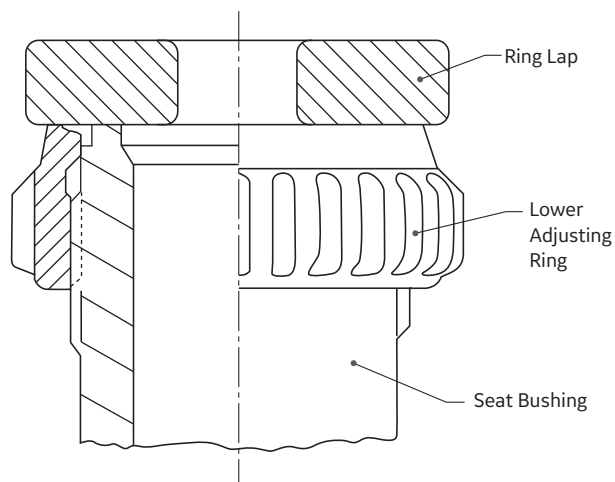

Figure 16: Bushing Seat Assembly
- Loosen the lower adjusting pin until the pin is slightly clear of the notches in the lower adjusting ring. Being careful not to move the lower adjusting ring, place a ring lap on top the bushing seat. (See Figure 16). Then, using the ring pin as a “pointer”, or reference point, rotate the lower adjusting ring counterclockwise and count the number of notches that pass in front of the “pointer” until contact is made with the ring lap. Record this information, as it will be required to correctly re-assemble the valve.